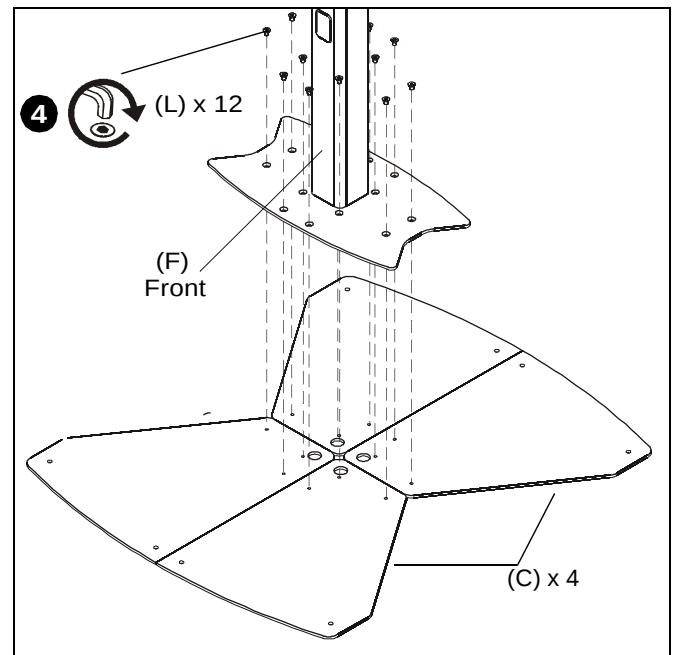

Figure 7
3. Place top base section and center post assembly on top of the four base pieces. (See Figure 7)
4. Fasten lower base pieces to top base section and center post assembly using twelve 5/16-18 x 1/2" flat head cap screws (L). (See Figure 7)